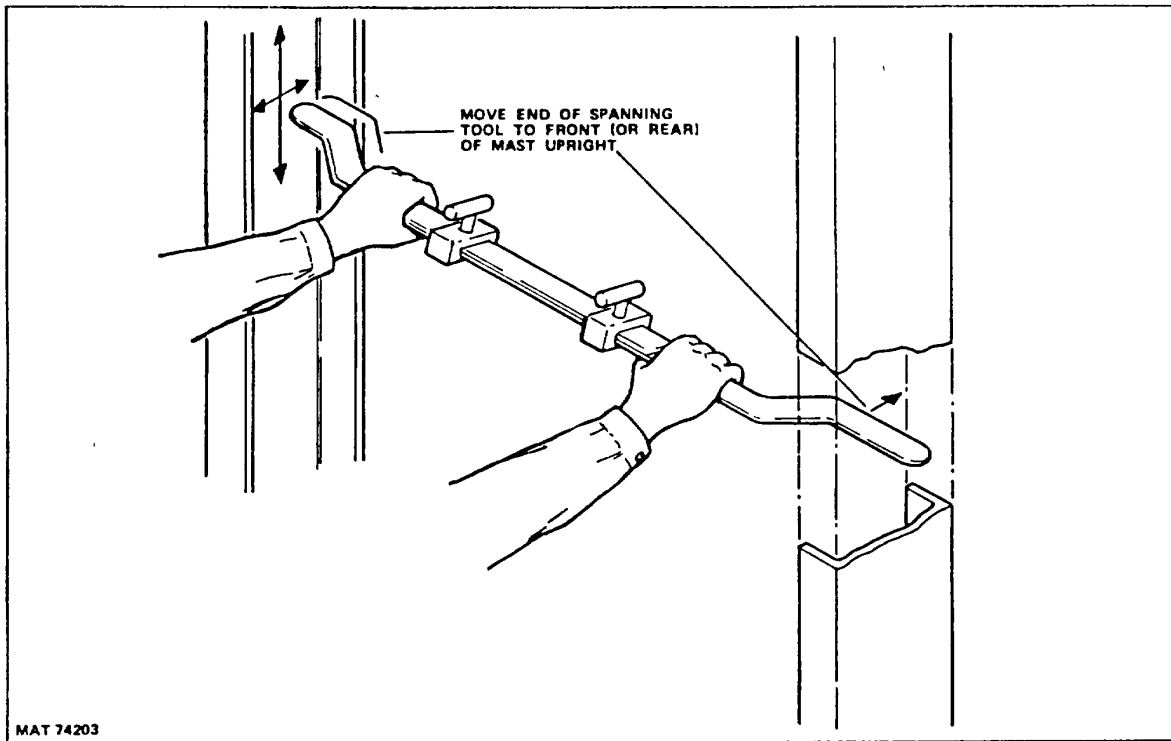
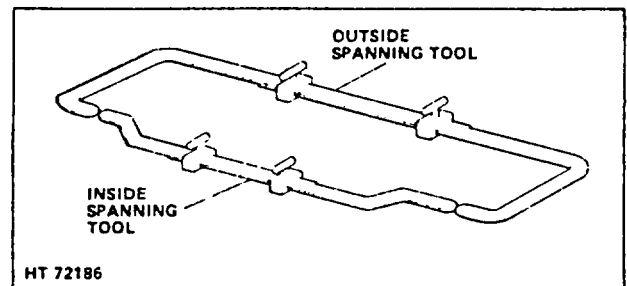

Figure 5. Spanning Outer Mast Uprights
Figure 6. Setting Outside Spanning Tool
1. Outer Mast Assembly. Use an adjustable inside spanning tool and check the rear inside of the outer mast upright to find narrowest distance between uprights (Figure 5). Lock tool in this position. Set an adjustable outside spanning tool to match inside spanning tool. Lock tool in this position (Figure 6).